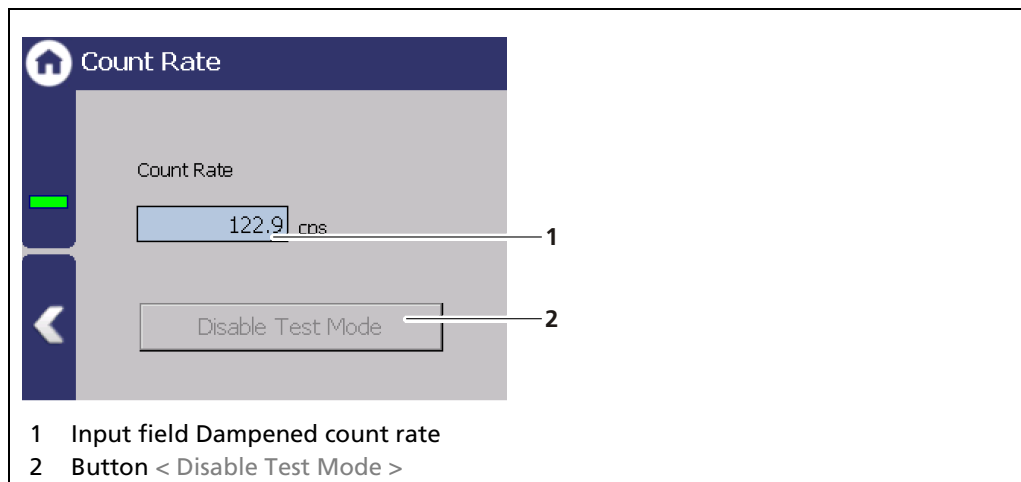

Fig. 128 Simulation Count Rate
1. Click on the input field (Fig. 128, item 1) and enter count rate for the simulation.
3. Click on the < Disable Test Mode > button (Fig. 128, item 2) to stop the simulation.